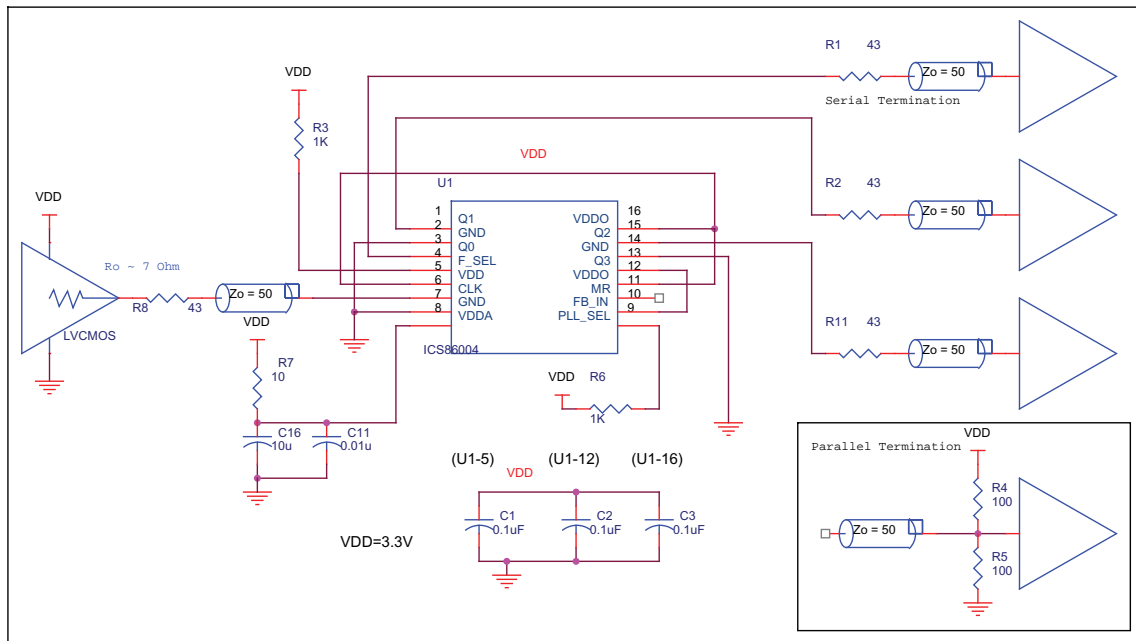

FIGURE 2. 86004 SCHEMATIC EXAMPLE
*Figure 2* shows a schematic example of using an 86004. It is recommended to have one decouple capacitor per power pin. Each decoupling capacitor should be located as close as possible to the